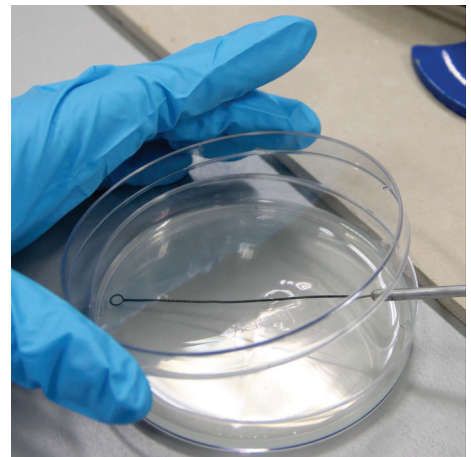

Fig. 15
15. Raise the lid of agar plate “A3” at about 45° (Fig. 15)[#]. Put the inoculating loop onto the agar.